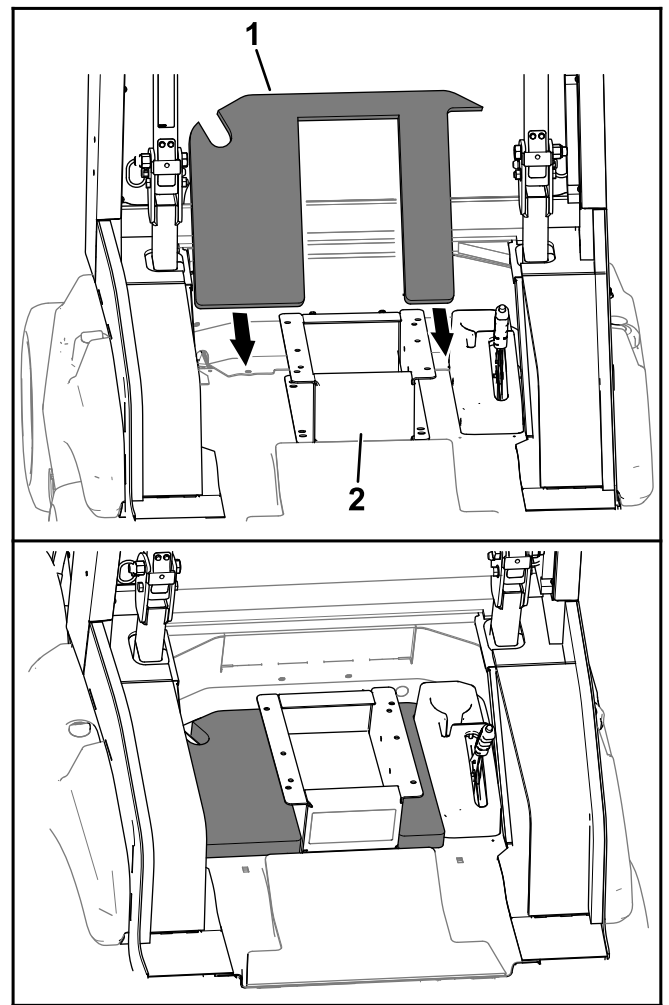

Figure 20
3. Install the seat pad around the seat base (Figure 20).